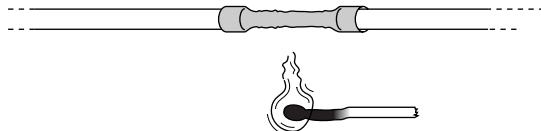

FIGURE 9-7: Heat the tubing to shrink it over soldered joint.
6. Using a match or a butane lighter flame (or by stroking the tubing with the hot barrel, not tip, of your soldering iron), heat the tubing just until it shrinks down around the soldered connection (see Figure 9-7). Don't overheat it. If you do, it will burn and crack away.